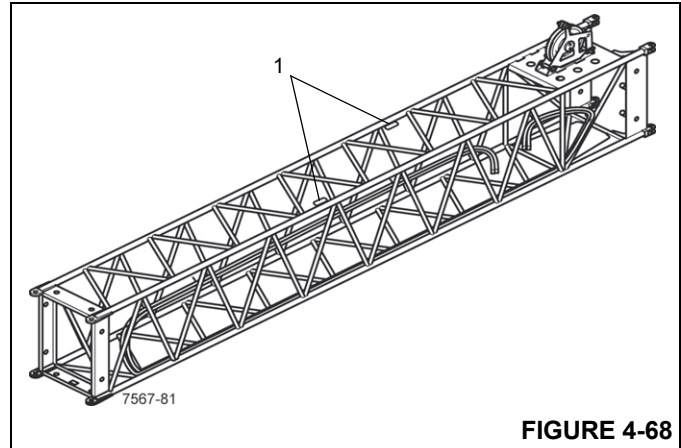

FIGURE 4-68
2. Connect a sling to the two lifting lugs (1) (Figure 4-68).
2. Connect a sling to the two lifting lugs (1) (Figure 4-68) and lift the extension enough to take the load off the connecting pins.